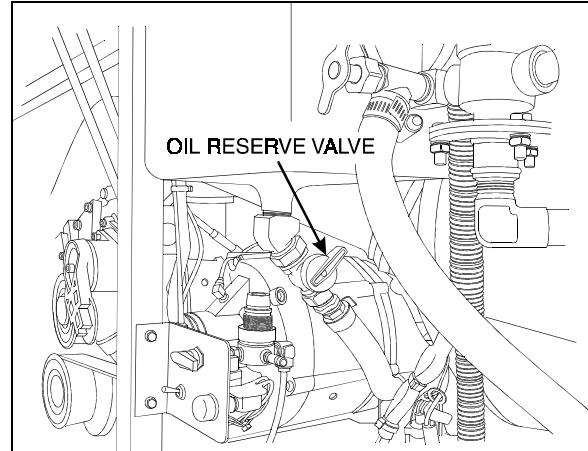

FIGURE 1: ENGINE OIL RESERVE TANK
- FIGURE 1: ENGINE OIL RESERVE TANK 24-3